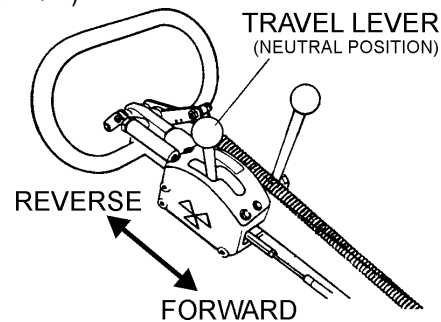

Figure 20. Travel Lever
1. To make the roller move in the forward direction push the travel lever (Figure 20) forward. This roller has a hydraulic variable speed transmission. By moving the travel lever variouys increments, you can vary the speed from 0 to 1.8 mph (0 to 3 km/hr).
2. To make the roller move in the reverse direction pull the travel lever (Figure 20) backwards.